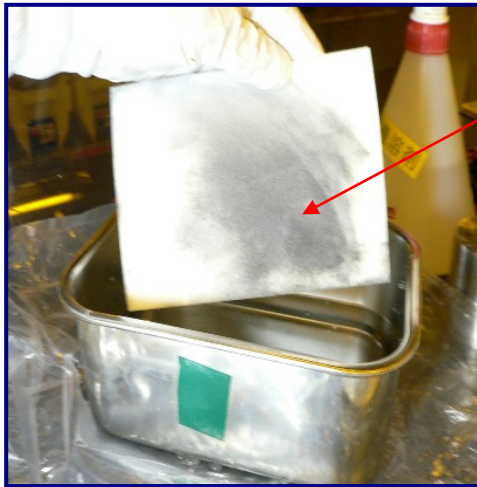

Fig 4: UltraSOLV®
Step 7: Unload the UltraSOLV® HT4754 Sponge by moistening with DI water and ringing out into a HazMat container (See Fig 4 & 5)